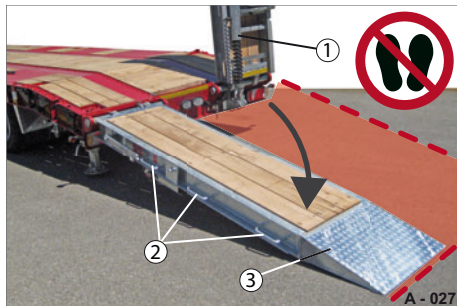

Fig. 28 Folding down manually
- Stand outside to the side of the ramp (Fig. 28/3).
- Pull the ramp by one of the handles (Fig. 28/2). Hold the ramp tightly and set it slowly on the ground.
► Pull the ramp up by the handle (Fig. 28/2).